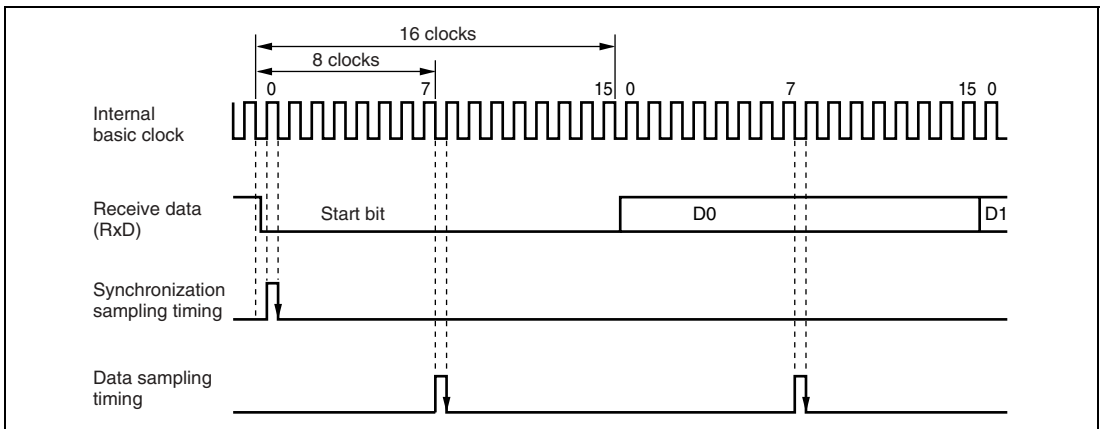

Figure 14.4 Receive Data Sampling Timing in Asynchronous Mode
In asynchronous mode, the SCI operates on a basic clock with a frequency of 16 times the bit rate. In reception, the SCI samples the falling edge of the start bit using the basic clock, and performs internal synchronization. Since receive data is latched internally at the rising edge of the 8th pulse of the basic clock, data is latched at the middle of each bit, as shown in figure 14.4. Thus the reception margin in asynchronous mode is determined by formula (1) below.